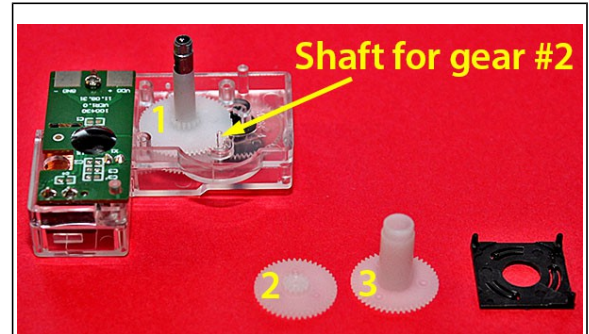
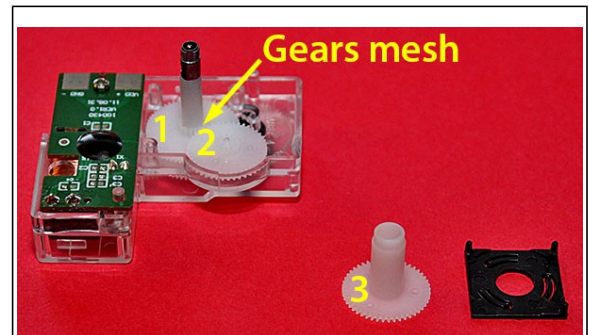

Fig. 48: Gear #1 in place.
Fig. 49: Gear #2 in place.
- ☐ **Gear #1.** Place gear #1 with the threaded metal top shaft over the tall thin spindle in the movement housing (Fig. 48).
- ☐ **Gear #2.** Place gear #2 onto the tiny clear plastic shaft protruding from the housing, shown in Fig. 48. The large-diameter gear should be on the bottom, and it should mesh with the small gear on top of gear #1. See Fig. 49.